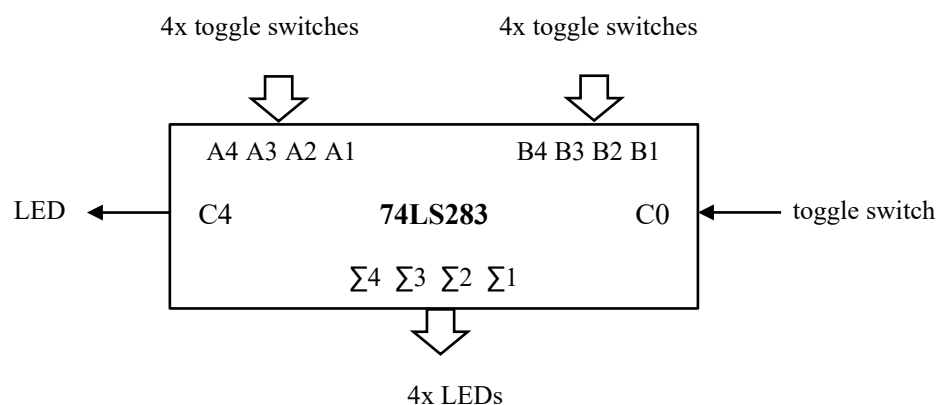
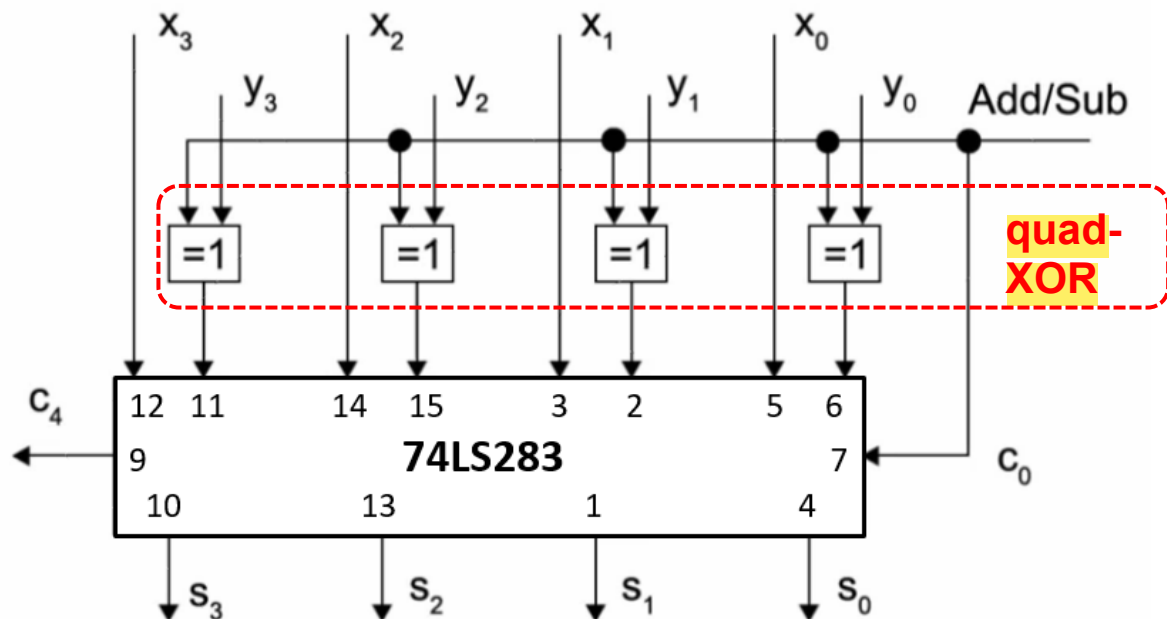

Figure 3: 4-bit binary adder with toggle switches and LEDs connected
Figure 4: 4-bit adder/subtractor circuit
- 5.1.1 Figure 3 shows the experiment setup. Refer to steps 1-6 of Lab 2 circuit connection guide.pdf for a pictorial guide.
- 5.2.1 The next few steps will modify the circuit you have built in section 5.1 such that it can perform 2's complement addition ($X+Y$) and subtraction ($X-Y$), as shown in Figure 4. For your convenience, the pin numbers on the 74LS283 device are provided.
- 5.2.3 **Remove the connections between the toggle switches and inputs B4,B3,B2,B1** in Figure 3. Instead, connect these toggle switches to one input of each of the four XOR gates on the 74LS86 IC. These form the inputs y_3, y_2, y_1, y_0 in Figure 4.
- 5.2.4 Connect the **other input of each of the four XOR gates together**, and connect it to the **same toggle switch** that has been earlier connected to C0 in section 5.1 (see Figure 3). This forms the **Add/Sub** input in Figure 4.